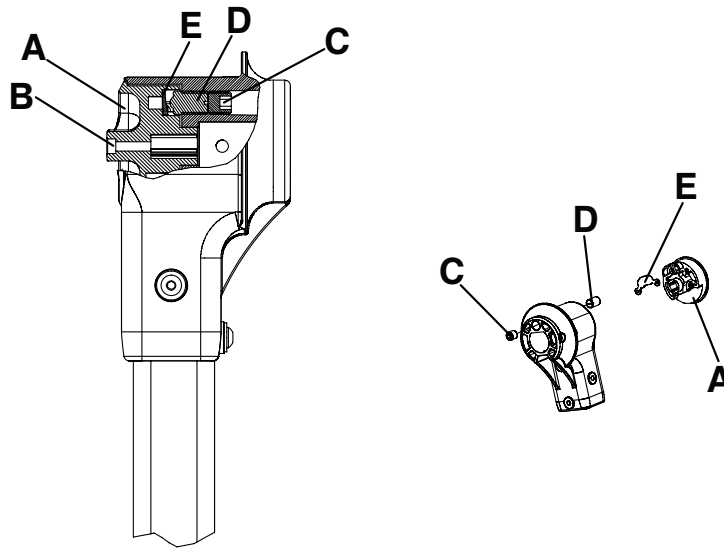

Figure 3 – Steer-Lock detent force adjustment
1. Rotate the **Steer-Lock** knob (A) to the locked position. Make sure that both casters are in the locked position and the **Steer-Lock** pin is free of debris (Figure 3).
2. Using a 5/32" Allen wrench, make sure (B) is tight on both sides (Figure 3). If not, tighten it securely.
3. Using a 1/4" Allen wrench, remove the set screw (C) on both sides (Figure 3).
4. Using a flat blade screwdriver, rotate the detent (D) counterclockwise on both sides until you do not feel any detent force (Figure 3).
5. Using a flat blade screwdriver, rotate the detent (D) clockwise, alternating from side to side, one turn at a time, until you feel resistance against the detent plate (E) (Figure 3).
6. Using a flat blade screwdriver, rotate the detent (D) counterclockwise two and a half to three turns on each side.
7. If additional adjustment is needed, rotate the detent half a turn clockwise for more detent force or half a turn counterclockwise for less detent force (Figure 3).